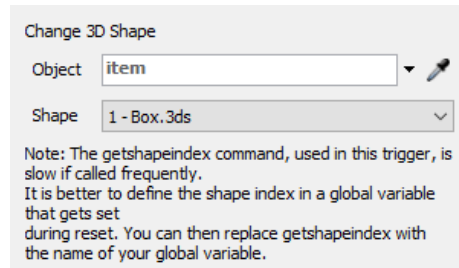

Fig. 19 Change 3D Shape
5. **Change 3D Shape** – allows you to change the shape of the object indicated in the *Object* field to the shape available on the list in the *Shape* field (Fig. 19).